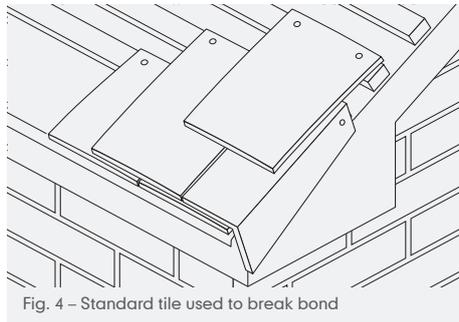

Fig. 4 – Standard tile used to break bond
- Each alternate course should contain a normal plain tile to break bond, which should be twice nailed using standard 38mm x 2.65mm aluminium or stainless steel nails (Fig. 4).